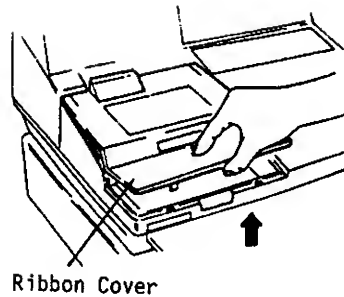

Fig. 14
2. Remove the Ribbon Cover. (Press the side inward and the hook will be unlocked.) (Fig. 14)